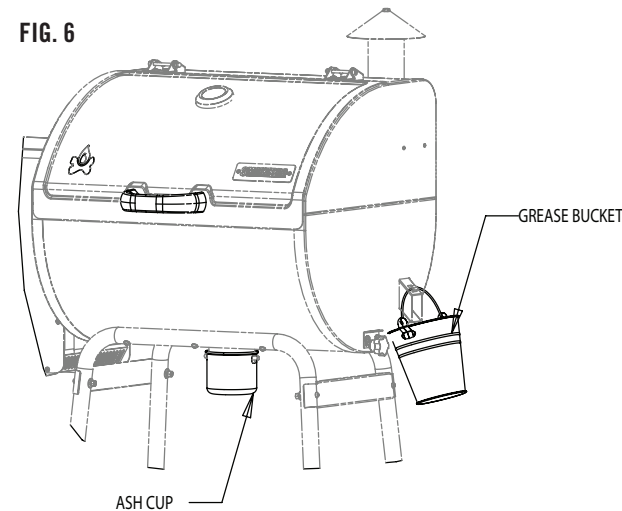

FIG. 6
1. Hang grease bucket from tube as shown in Fig 6.
1. Install Ash Cup as shown in Fig 6. Never use grill without Ash Cup in place.